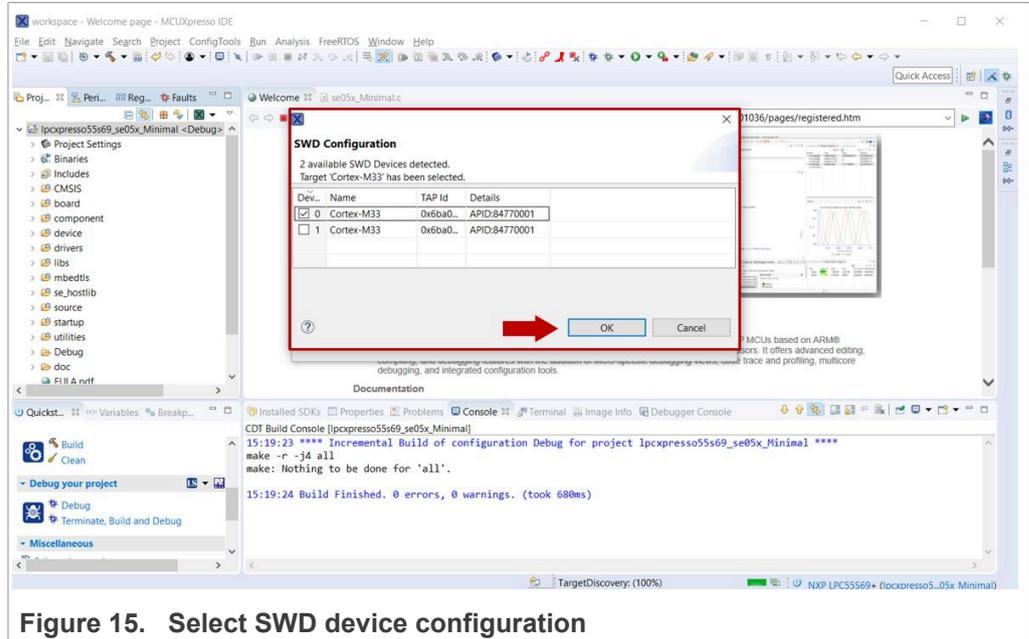

Figure 15. Select SWD device configuration
- You might be asked to select the SWD device configuration. You can use the default one as shown in Figure 15: